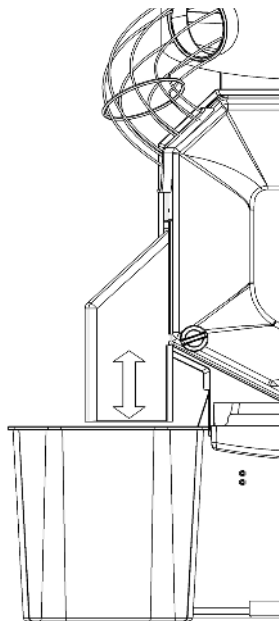

Figure 1
Put the Waste Buckets (45) on both sides of your machine, under the pulp outlet points on the cover(44) **(Figure 1).**